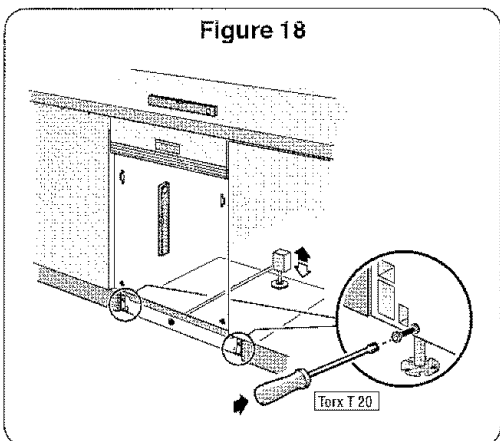

Figure 18
2. After the unit is installed in the enclosure, leveled and secured, lock the two front leg levelers in place by driving the enclosed leg leveler locking screws into each screw boss located in front of the levelers. See Figure 18.